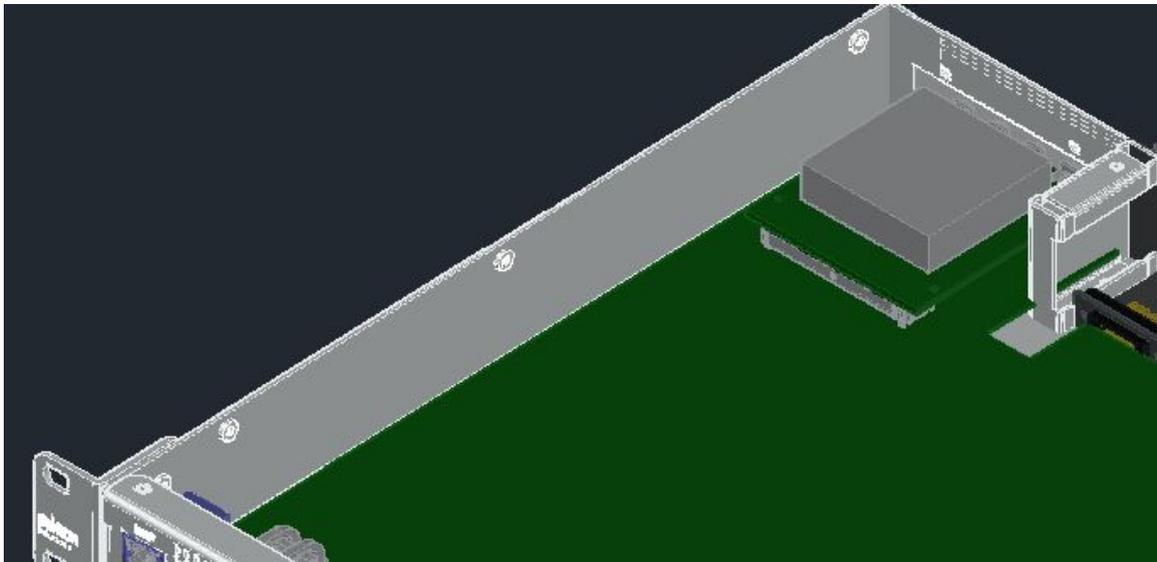

Figure 1: Standard FMC board connected directly to the main board.
1. The expansion board in a form factor of a standard FMC board, in this case an FMC+ or an FMC HPC connector is mounted on the WRS-4 main board (Figure 1). Remind that FMC+ has backward compatibility with original FMC mezzanines, and in addition the number of Gigabit transceivers increases to 32 with a maximum data rate up to 28 Gbps. The price is about **21 € for FMC HPC** and about **30 € for FMC+ connector**.